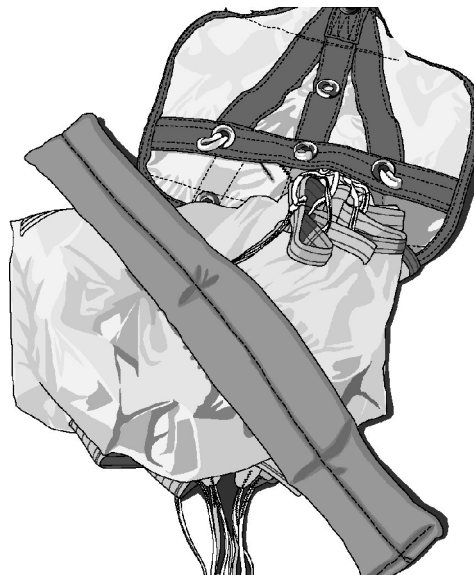

Figure 13. Apex Placement
q. Place apex of drogue parachute to the right on top of folds. Hold in place with shot bag (Figure 13).
t. Place drogue parachute in deployment bag with suspension line attachment points to the left side of the deployment bag (Figure 13).